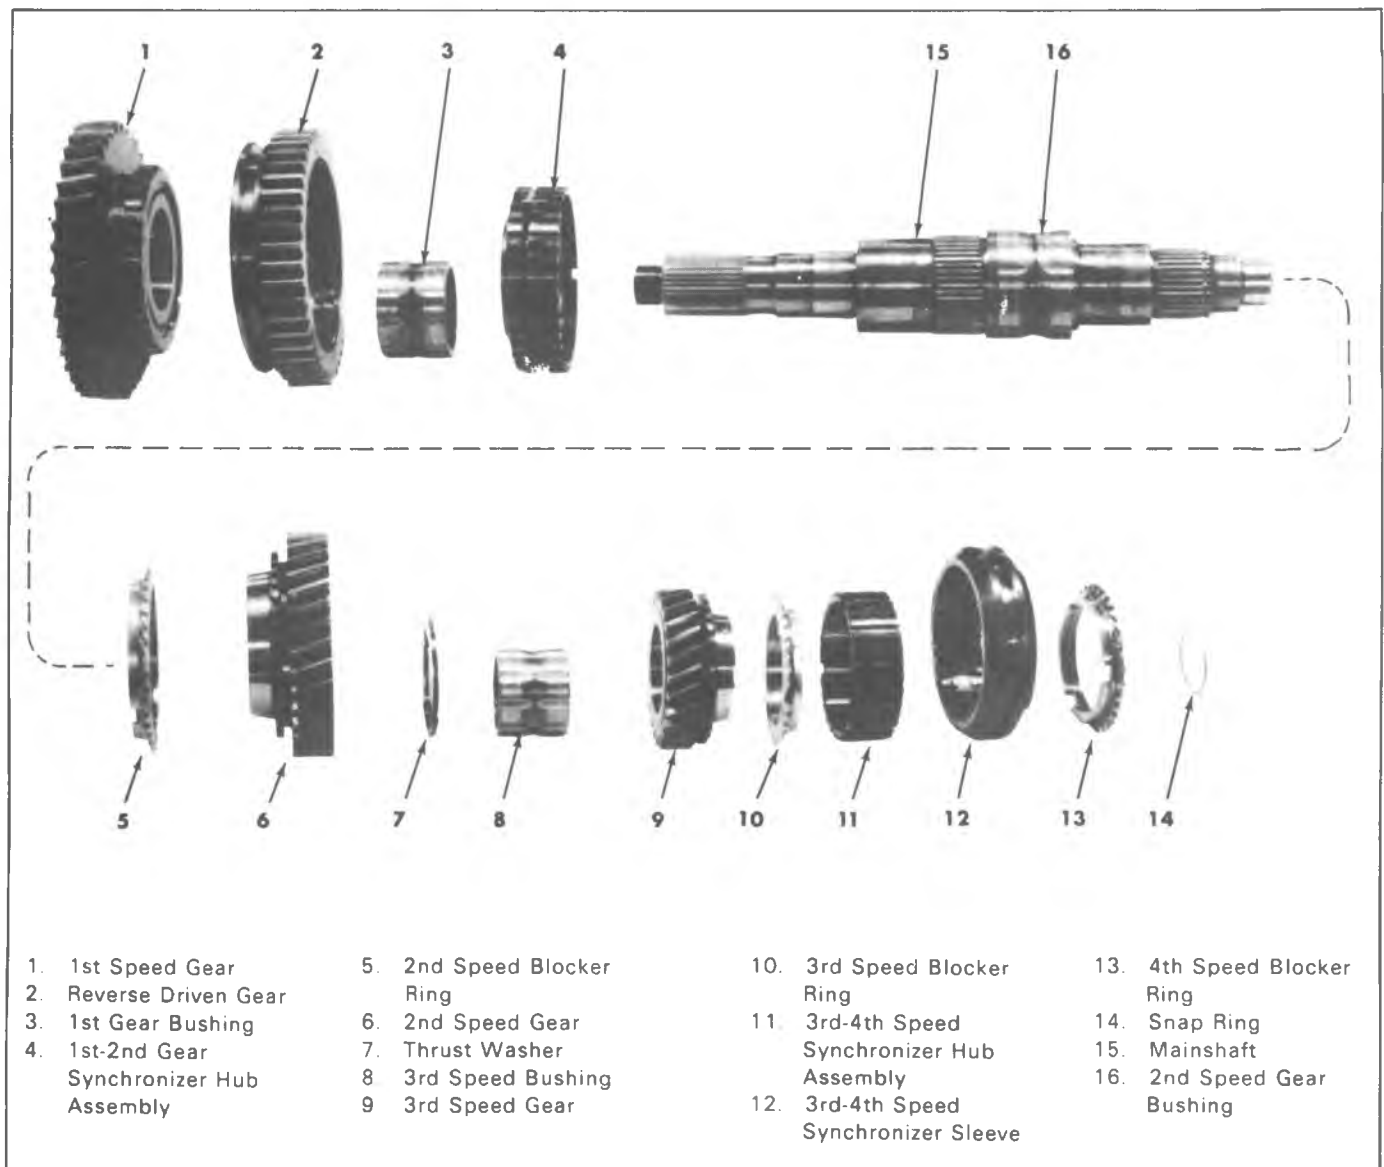

Fig. 7B-14L—Mainshaft Assembly Exploded View
3. Install mainshaft assembly into case with rear of shaft protruding out rear bearing hole in case. Position Tool J-22874 in clutch gear case opening and engaging front mainshaft (Fig. 7B-23L). Rotate case onto front end.
4. Install snap ring on bearing O.D. and position rear mainshaft bearing on shaft. Using Tool J-22874-1 drive bearing onto shaft and into case (Fig. 7B-23L). Rotate case